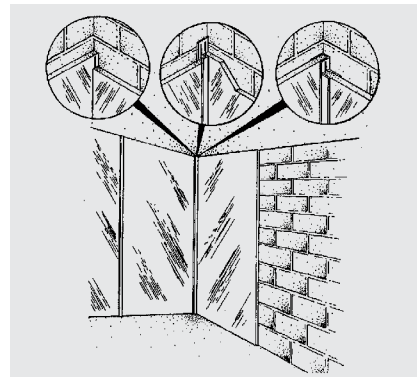

Figure 10
7. Figure 10 shows three different options for finishing at corners: butting two panels against one another, using the PVC Clip Strip or using the J-channel edge closure. The method chosen depends on the desired finished look.